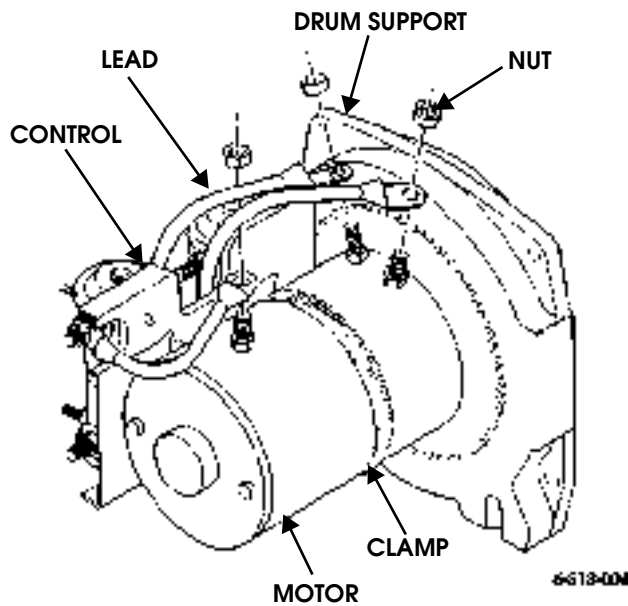

Figure 9-162: Control Leads
2. Remove three nuts and control leads from motor (Figure 9-162).